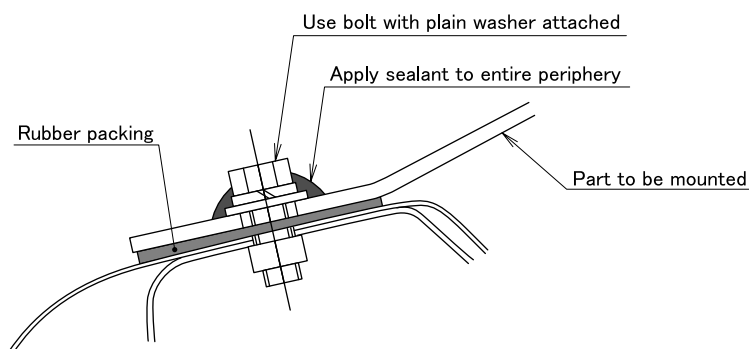

Fig. 3
- The top coat of paint must be applied to externally mounted parts before attaching to the roof. (See Fig. 3.)